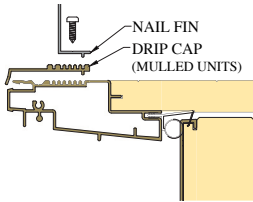

FIG. 8
- D) Install the supplied nail fin to both sides and top of the door as shown below. The location of the nail fin depends on the jamb depth of the rough opening. Ensure the correct location is chosen prior to applying the nail fin. (Fig. 8)